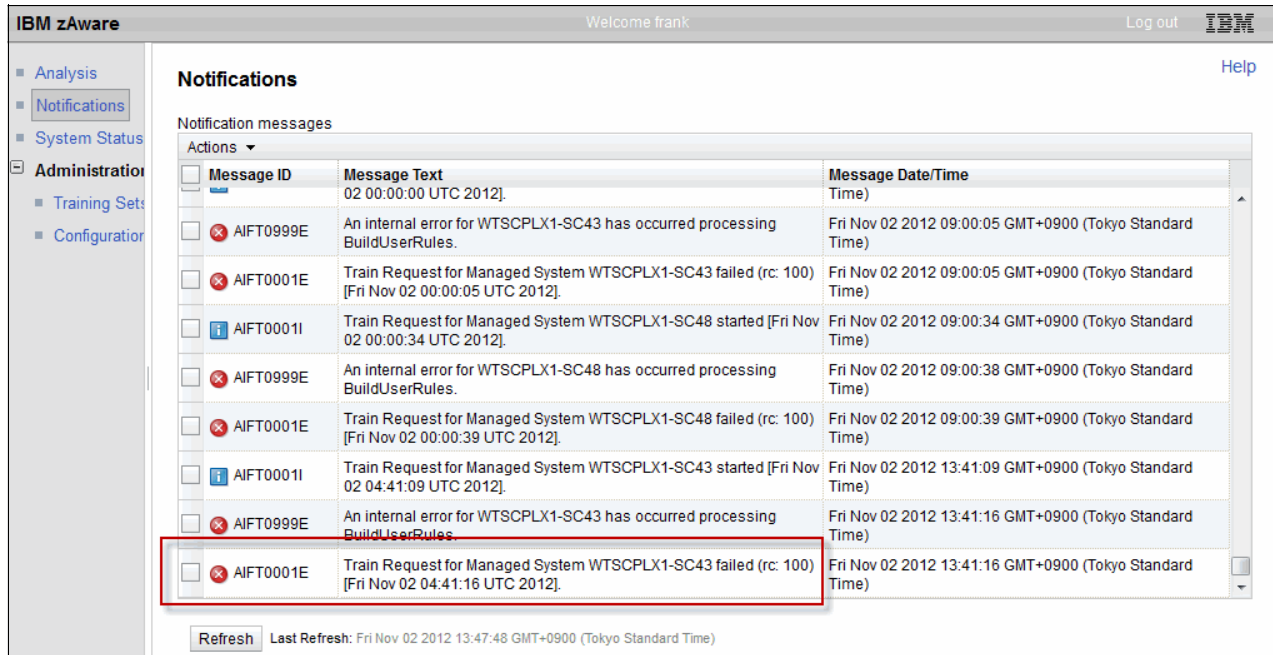

Figure 5-8 Notifications window showing training attempt
- If the training attempt still fails, go to the Notifications panel, scroll to the end, and find the AIFTnnnn messages relating to the training attempt. You might see a message similar to that shown in Figure 5-8 on page 170. Refer to *IBM System z Advanced Workload Analysis Reporter (IBM zAware) Guide*, SC27-2623, for help in understanding the reason for the failure.